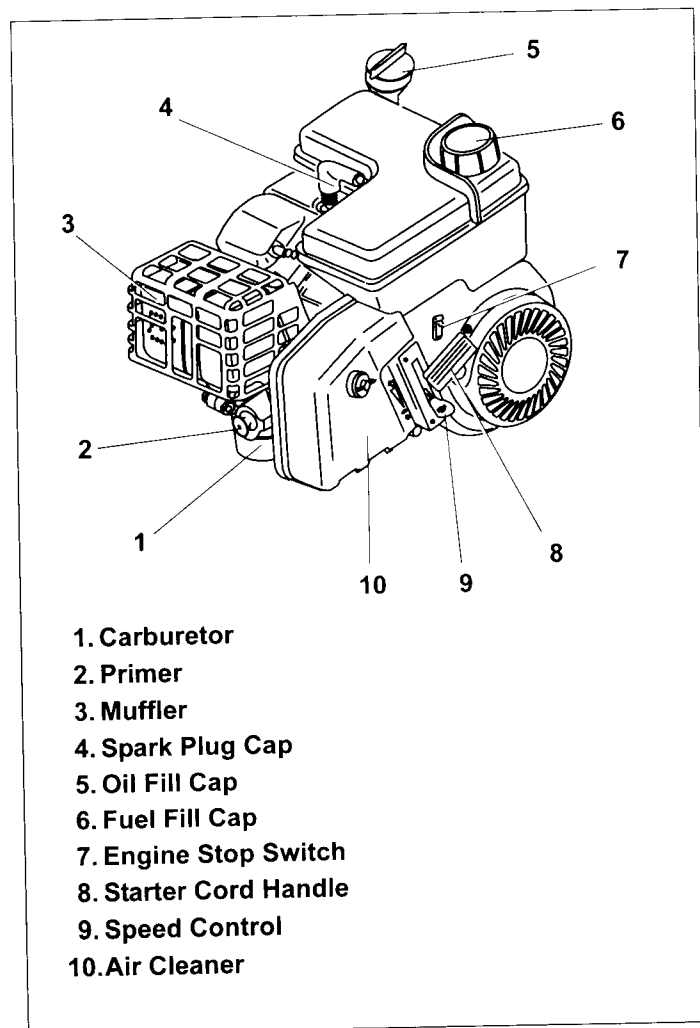

Figure 8. Engine with Oil Fill Dipstick
2. Unscrew oil fill cap from oil filler tube and wipe dipstick clean. See Figure 8.
3. Clean area around fuel fill cap and remove fuel fill cap. See Figure 8.